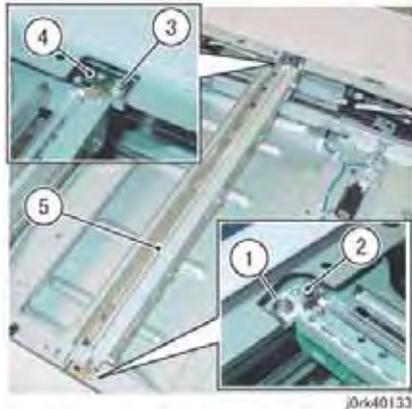

Figure 2 Light Guide Removal
6. Remove the Light Guide (Figure 2)